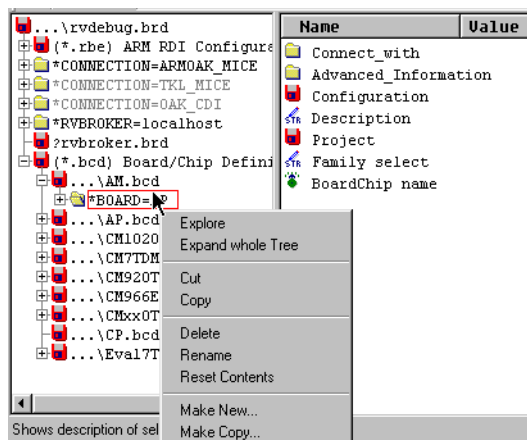

Figure 3-4 Deleting the original contents of the copied file
8. Expand the new .bcd file group by clicking on the  icon. Right-click on the contents (for example, a BOARD entry), to display the context menu shown in Figure 3-4.